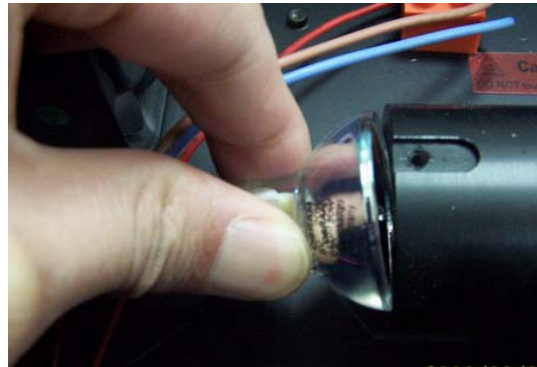

Figure 3-10
- 3、The installation of lamp is shown in figure 3-10, press down the lamp slightly, push it into the lamp socket and make it locked, then fix the lamp by screw and spring piece as original. At last you shall check if the lamp has been fixed tightly. If not, you must take off the lamp again; adjust the spring piece to make sure that it has enough power to fix the lamp.